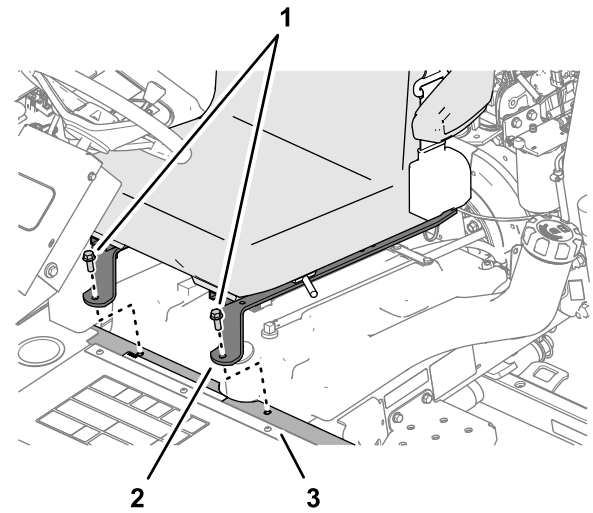

Figure 57
3. Tilt the seat down and align the front holes in the seat straps with the holes in the support channel (Figure 57).
4. Assemble the seat straps to the support channel (Figure 57) with the 2 flange-head capscrews that you removed in Removing the Operator's Seat (page 4).